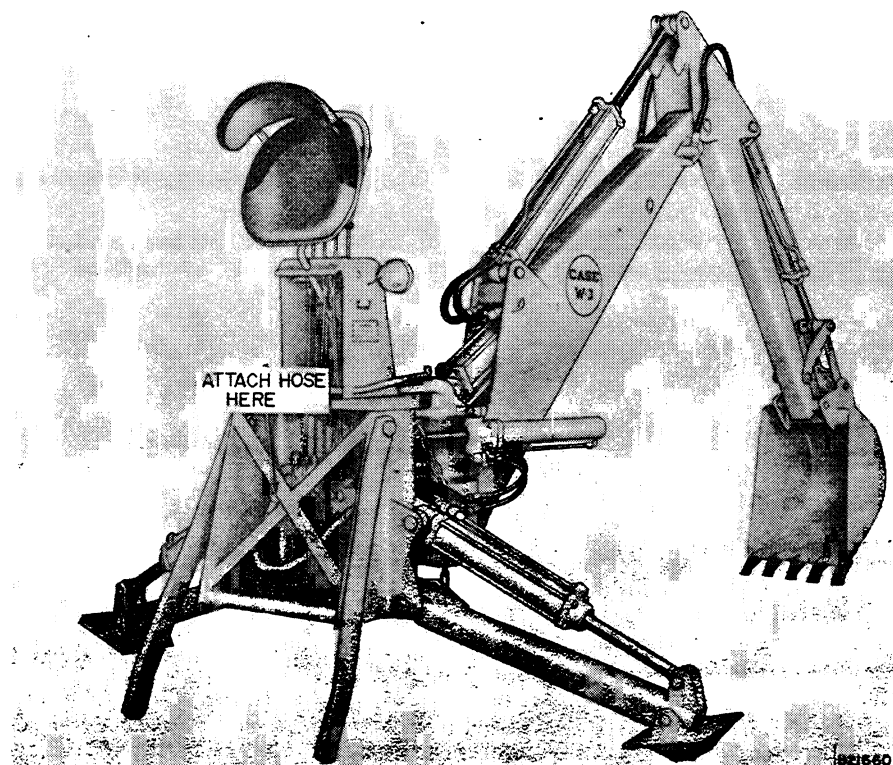

Figure 29 - Backhoe Off Tractor
8. Connect loose end of hose on Backhoe to valve inlet port, see Figure 29. Place blocks under Backhoe near pivot end of stabilizers.